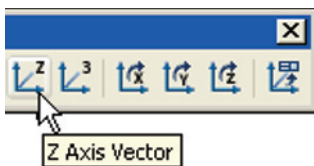

Fig. 17.16 The **Z Axis Vector** **UCS** icon in the **UCS** toolbar
2. Click the **Z Axis Vector** **UCS** tool icon in the **UCS** toolbar (Fig. 17.16).